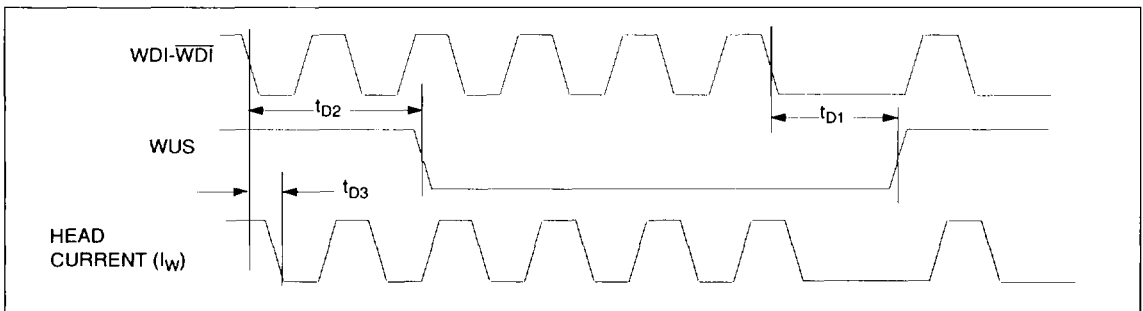

Figure 1: Write Mode Timing Diagram for VM7750F
**SWITCHING CHARACTERISTICS** Recommended operating conditions apply unless otherwise specified;  $I_W = 10mA$ ,  $f_{DATA} = 5MHz$ ,  $L_H = 0.54\mu H$ ,  $R_H = 20\Omega$ ,  $C_L$  (RDX, RDY)  $\leq 20pF$  (see Figure 1).
**SWITCHING CHARACTERISTICS** Recommended operating conditions apply unless otherwise specified;  $I_W = 10\text{mA}$ ,  $f_{\text{DATA}} = 5\text{MHz}$ ,  $L_H = 0.54\mu\text{H}$ ,  $R_H = 20\Omega$ ,  $C_L$  (RDX, RDY)  $\leq 20\text{pF}$  (see Figure 1).